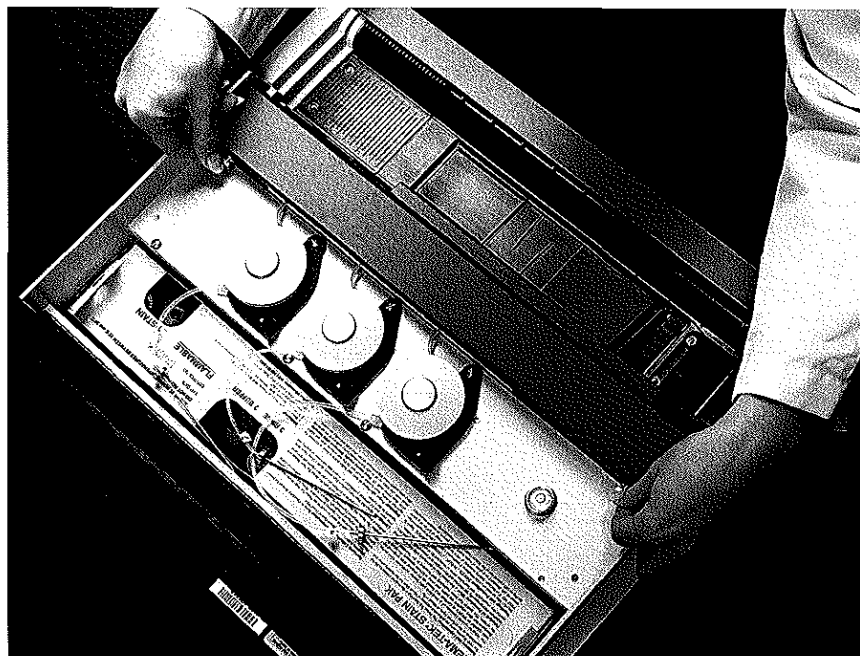

Figure 6-4
3. Loosen the two thumb screws that are inserted through the notches in the back of the circuit board cover (Figure 6-4). Carefully raise the circuit board cover so the back trough is completely exposed and easily accessible (Figure 6-5). Move the panel up and back, out of the way, until cleaning is completed.
3. Loosen the two thumb screws at the back of the circuit board cover (refer to Figure 6-4). Lift the panel from the front wall, exposing the printed circuit board and the connectors for the "Low Stain" and "Power" lights (refer to Figure 6-5).